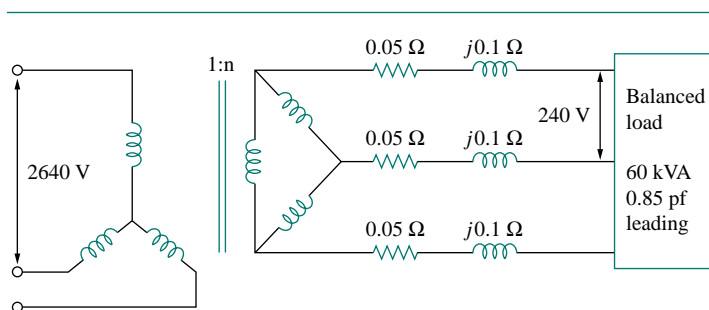

Figure 13.122 For Prob. 13.57.
- 13.57** A Y- Δ three-phase transformer is connected to a 60-kVA load with 0.85 power factor (leading) through a feeder whose impedance is $0.05 + j0.1 \Omega$ per phase, as shown in Fig. 13.122 below. Find the magnitude of: